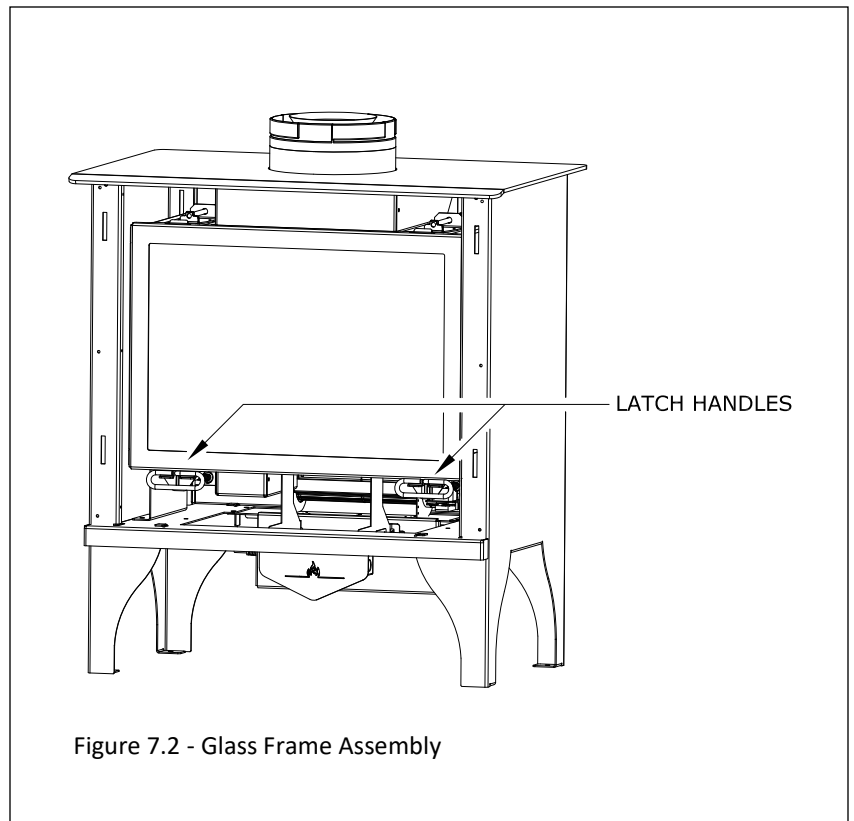

Figure 7.2 - Glass Frame Assembly
1. Tilt the top of the glass frame assembly as shown in Figure 7.2. Align the slots on top of the glass assembly over the tabs at the top of the firebox while lowering the bottom of the glass assembly into position.